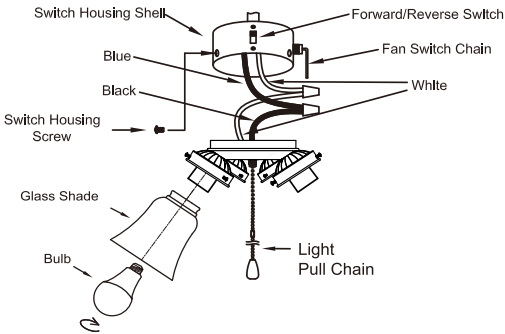

Fig.15a
Remove switch housing screws. Press fixture up into switch housing shell, aligning screw holes. Insert (3) screws and tighten firmly (see fig.15a).